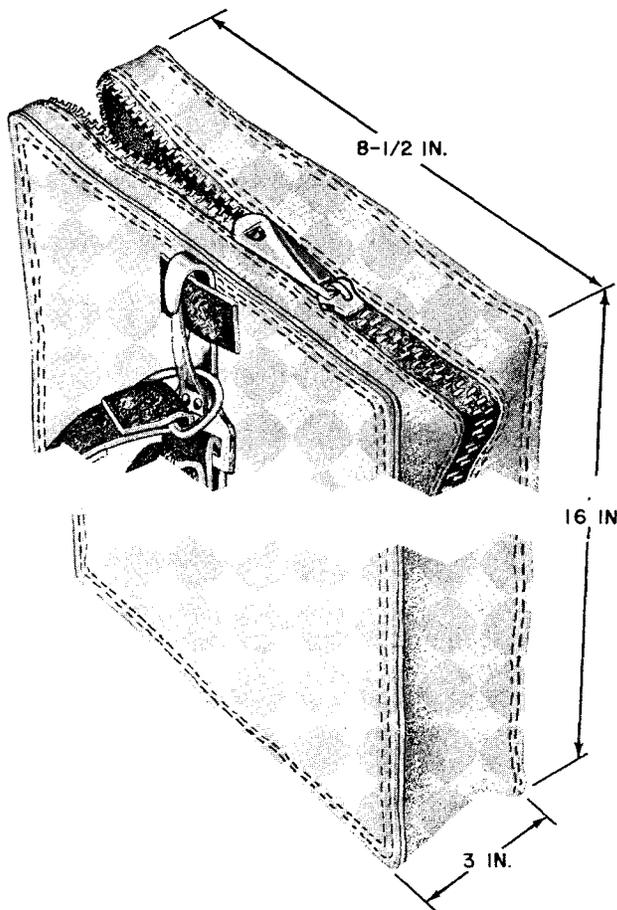

Fig. 4—B Glove Bag
**5.02** The B Glove Bag, Fig. 4, is made of cotton duck with a liner of polyethylene. A zipper is provided for opening the top of the bag. A web strap, terminated in a snap hook and a Dee ring and reinforced with leather at the point of maximum wear, is provided for suspending the bag from the body belt.